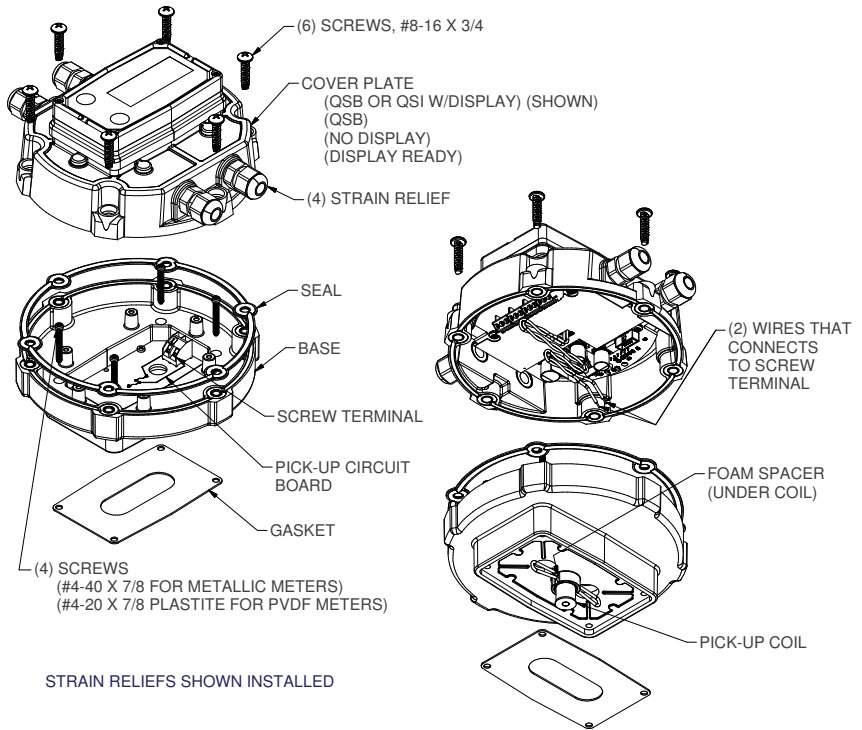
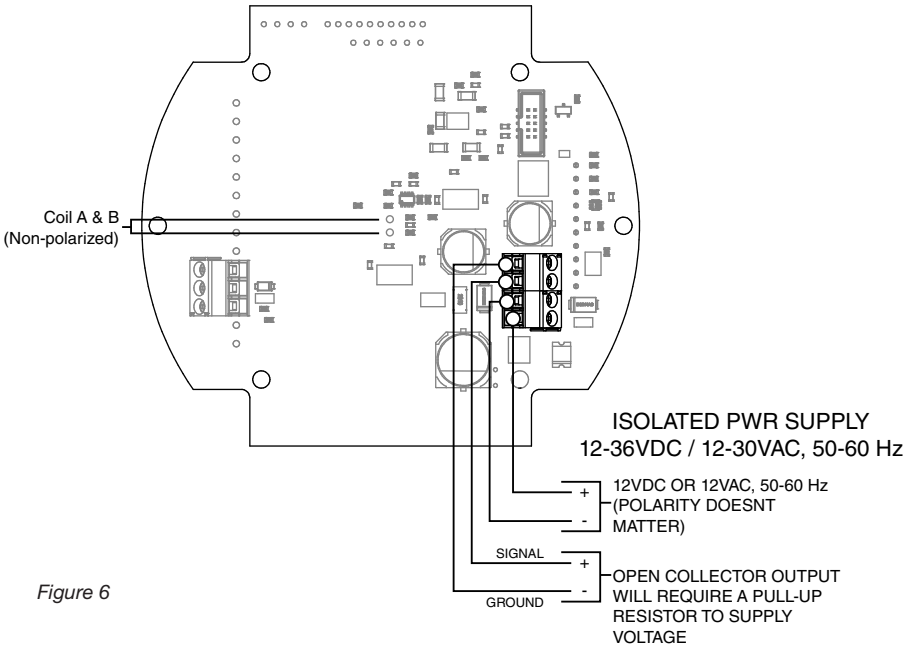

Figure 4
Figure 6
3. Remove the (6) #8-16 x 3/4 in. screws attaching the module cover plate to the base and separate. Do not damage the seal between the two components. The (2) wires connecting the QSB or QSI PC board to the screw terminal of the pick-up circuit board are long enough to allow separation of parts. The wires may be disconnected from the screw terminal if necessary. The wires are non-polarized and may be connected to either screw of the screw terminal (see Figure 4).
4. Install the gasket received with the module on the bottom of the base. Mount the base to the G2 meter, seating the pick-up coil in the meter recess. Secure base with (4) screws provided with the module. Tighten screws.
5. Make sure the seal is in place on top of the base prior to reattaching (if previously disconnected) the (2) wires to the screw terminal of the pick-up circuit board.
8. Connect cable wires to the QSB or QSI PC board screw connectors (see Figure 6, 8, 10, or 12 depending on your module version).
9. Mount the cover plate on the base making sure the seal is seated properly between them. Replace the (6) previously removed screws to secure the cover plate to the base. Tighten screws.
spacer attached. Remove the liner from the foam spacer, exposing the adhesive layer, and seat the coil/spacer combination in its recess on the adapter (see Figure 4).